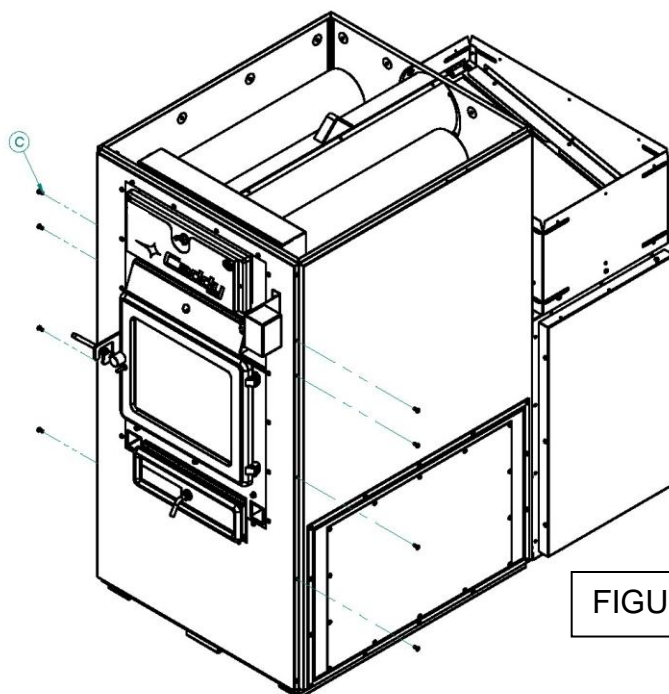

FIGURE 3
**Step 3:** Unscrew the eight (PF01010) or six (PF01000 or FP01200) screws (c), depending on the furnace version, as shown on figure 3. Keep the screws.